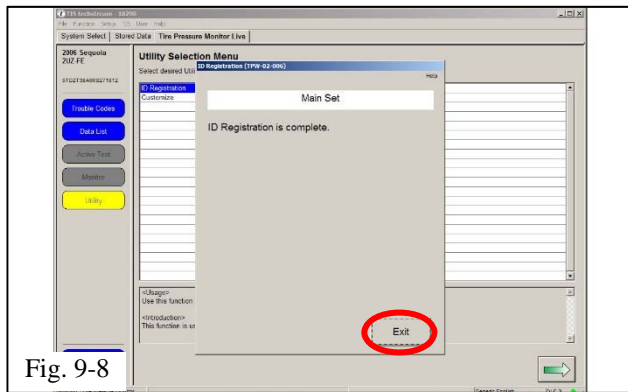

Fig. 9-8
- (k) After all of the TPMS ID numbers have been registered, “ID Registration is complete” text should be displayed. Click “Exit” to finish the registration process (Fig. 9-8).